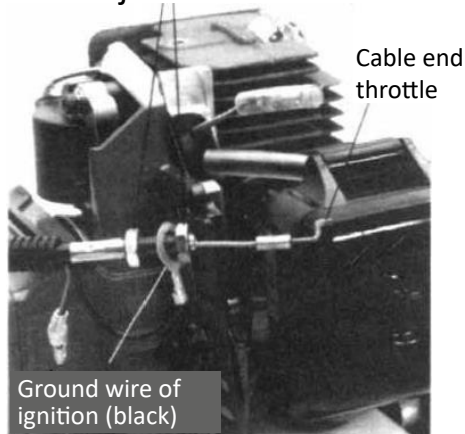

Figure 6
1. Route the finned cable assembly to the upper left side of the engine. You will notice that the black ground wire (with a mounting ring at the end) is placed between the two cable adjustment nuts, as shown in figure 6.